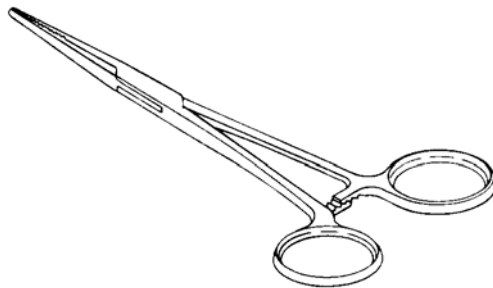

Figure 6-1. Hemostats.
a. **Hemostats.** These are useful for temporarily stopping air or water flow through the tubing while troubleshooting or repairing the unit. Refer to figure 6-1.